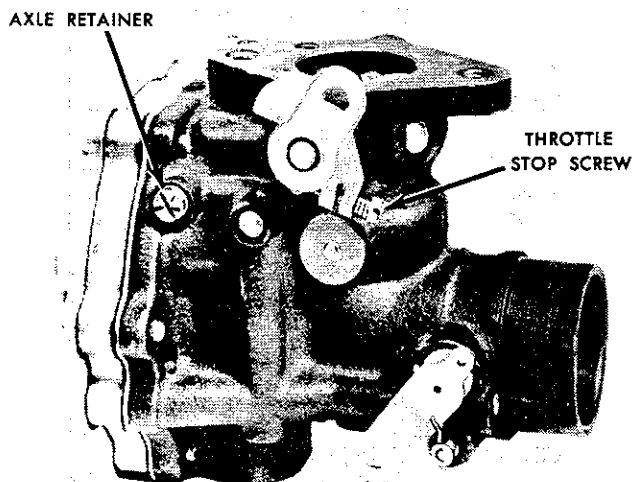

FIG. 2
1. Turn throttle stop screw to left until throttle plate is fully closed. Fig. 2.